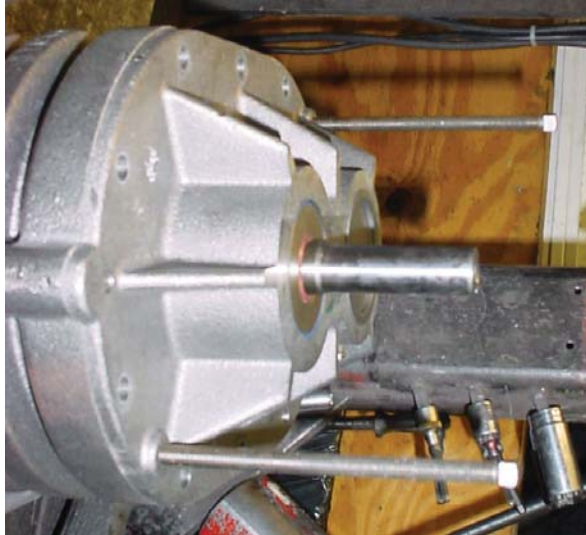
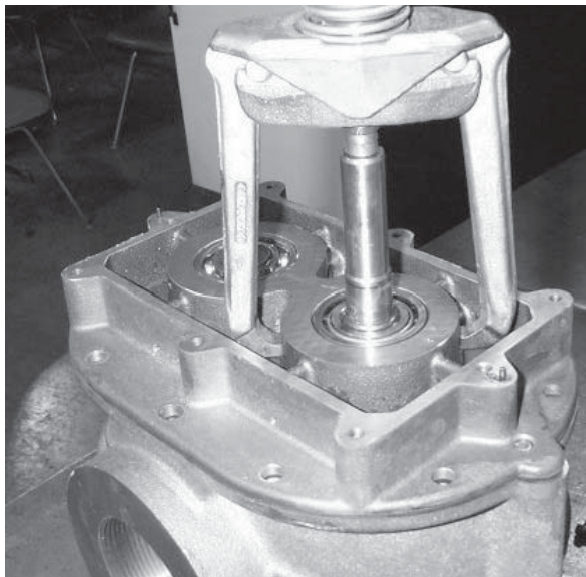

Figure 8-6 – Removing Drive End End Plate Using Jackscrews (21 Series)
Figure 8-7 – Pulling Drive End Plate (22 Series)
13. Use a jaw puller or jackscrews to remove the drive end plate (see **Figure 8-6** and **Figure 8-7**).